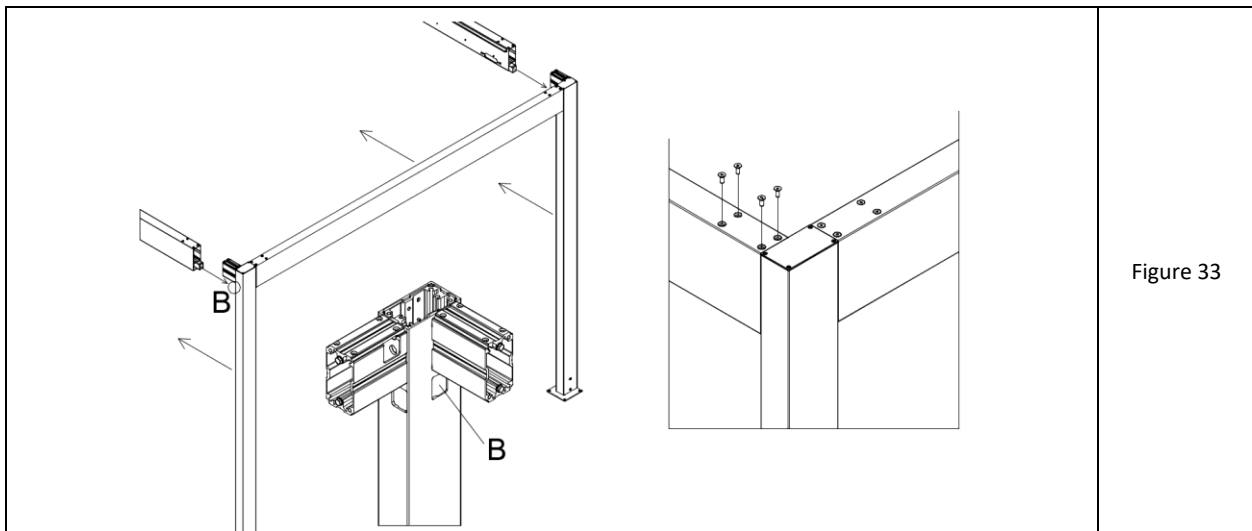

Figure 33
15. The frame should be inserted into the free ends of the supported crossbeams. The lower outflows in the crossbeams enter a square window (place "B") in the post (on the wider side) below the bone. Bone from the post to the upper chamber of the beam (fig. 33).
16. Screw both corners from above using 4 countersunk screws M8x20 with Allen socket (fig. 33-right).